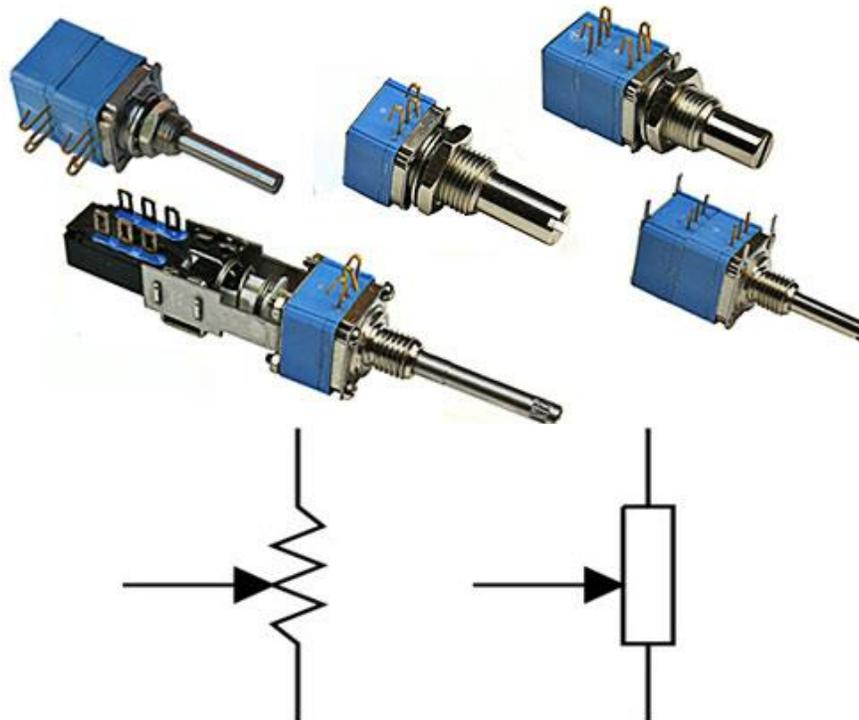

Figure 6.7: Potentiometers
- 6-40 Potentiometers and rheostats are similar in construction. The resistance element is usually arranged in a circular arc, making a circular component like the ones shown in Figure 6.7. But sometimes the resistance element is in a straight line. A sliding contact changes the resistance between the contact and the end of the element.